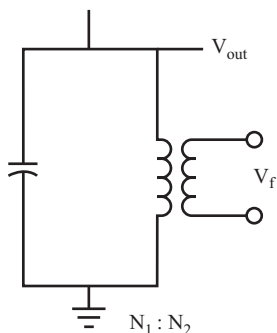

FIGURE 9.14
**18** Figure 9.14 shows a parallel LC circuit in which the feedback voltage is taken from the secondary coil of a transformer. The formula used to calculate the output voltage of a secondary coil is covered in problem 6 in Chapter 10, “The Transformer.”